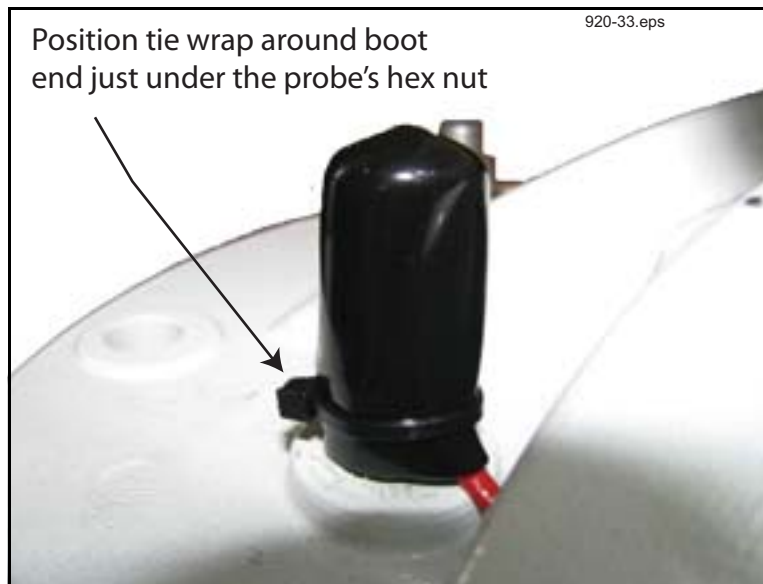

Figure 31. Positioning The Tie Wrap Over The Temperature Probe's Protective Cap
6. Slide the cap over the bend of the cable and push it down over the hex nut until it rests against the meter. Get the tie wrap (P/N 576008-161) from the temperature probe kit and position it around the end of the cap just under the temperature probe's hex nut and tighten it (see Figure 31).